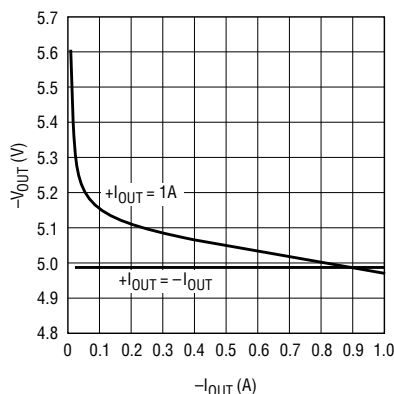
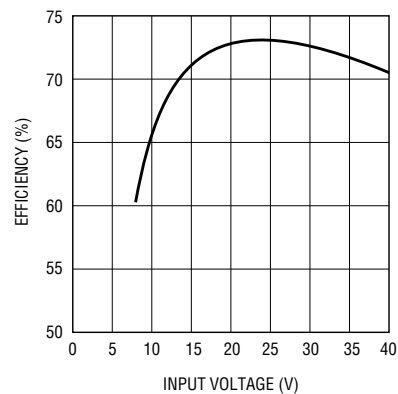

Figure 5. -5V output dropout characteristics
Figure 6.  $\pm 5V$  efficiency characteristics with 1A common load
With the switch turned on at a 100% duty cycle, the dropout voltage is limited only by the load current multiplied by the total DC resistance of the MOSFET, the inductor, and the current-sense resistor. For example, the low dropout 5V regulator shown in Figure 6 has a total resistance in dropout of less than 200m $\Omega$ . This gives it a dropout voltage of less than 200mV at 1A output current. Furthermore, when the regulator is in a dropout condition, the ground current is limited to the DC supply current (1.5mA for the LTC1148 and 2.5mA for the LTC1149) independent of load current.
**Figure 6. The LTC1148/LTC1149 architecture provides 100% duty cycle, allowing very low dropout operation. This LTC1148-5 circuit supports a 1A load with the input voltage only 200mV above the output**
Figure 5 shows the circuit's -5V load-regulation characteristics, and Figure 6 shows its efficiency.